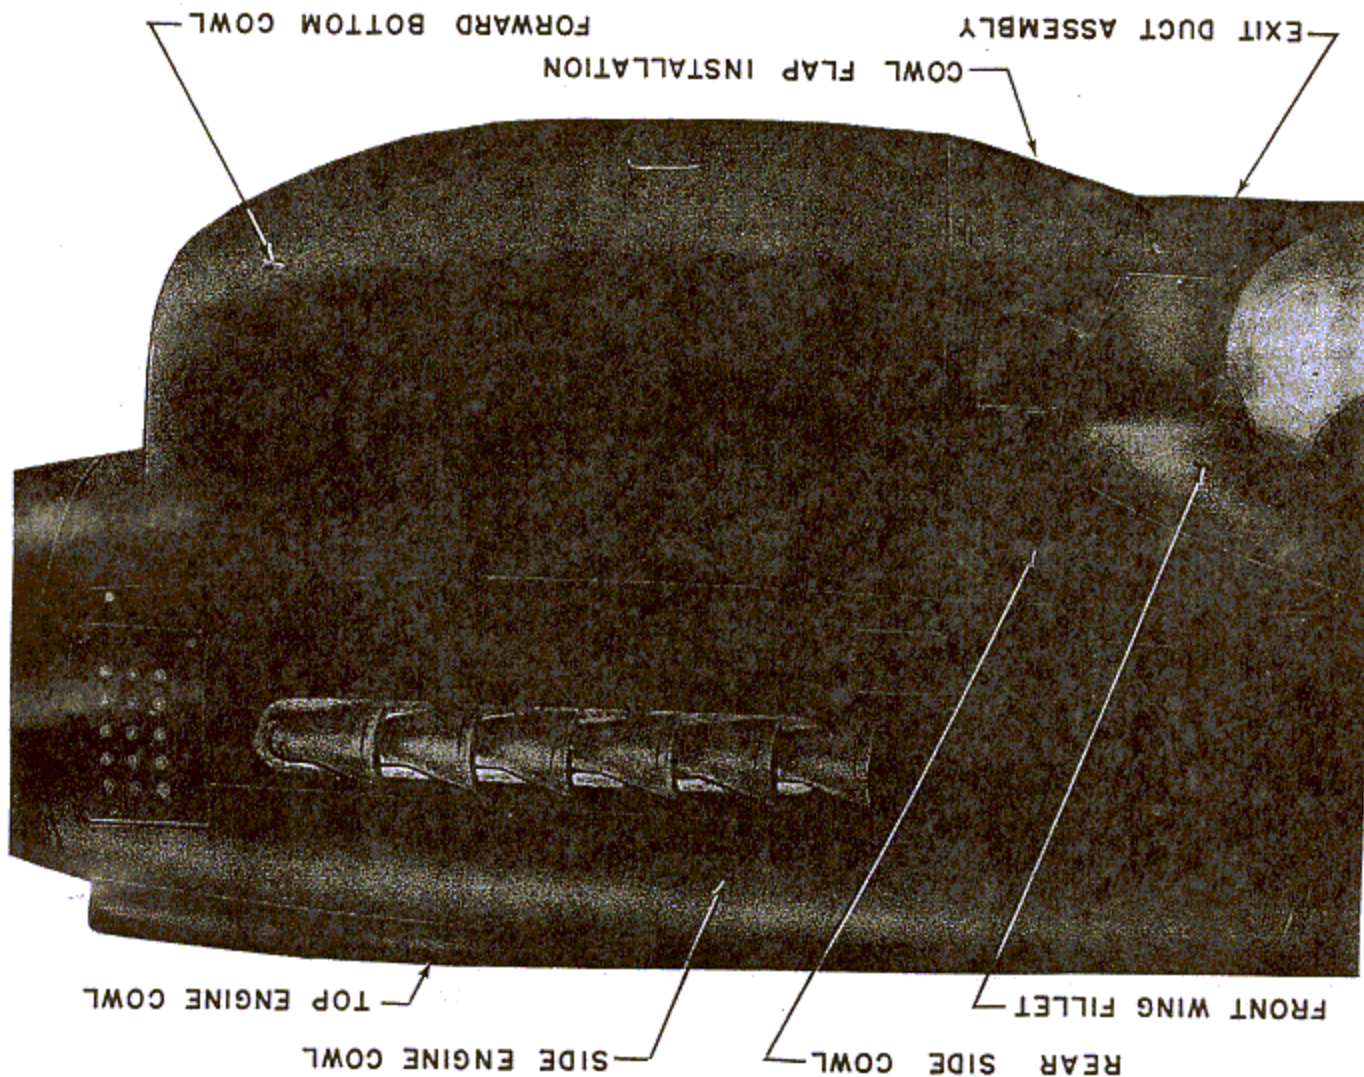

Figure 152—Engine Cowling—Right Side
(1) GENERAL DESCRIPTION. (See figures 152 and 153.)—The engine cowling consists of the top cowl, side cowl, forward bottom cowl, rear side cowl, and the cowl flap assembly. An air exit duct is installed sealing the engine compartment from the oil cooler and coolant radiators. The air passing through the radiators from the intake ducts in the forward bottom cowl, is directed out through the cowl flaps by the air exit duct.